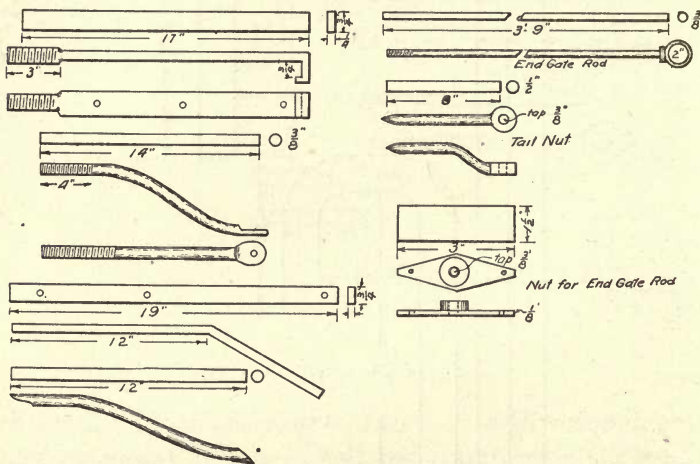

FIG. 216.—IRONS FOR WAGON BOX.
1. Each of the 8 strips used to fasten the crosspieces on to the side boards, is rounded at one end for a distance of 3''; and is made  $\frac{3}{8}$ '' in diameter. This rounded end is threaded for a nut and the other end is bent to fit over the top edge of the side boards (Fig. 216).
4. The two brackets for the foot rest are made of  $\frac{3}{8}$ " round iron 12" long, bent in the shape shown in Fig. 216, flattened at the ends, and punched for the bolts.